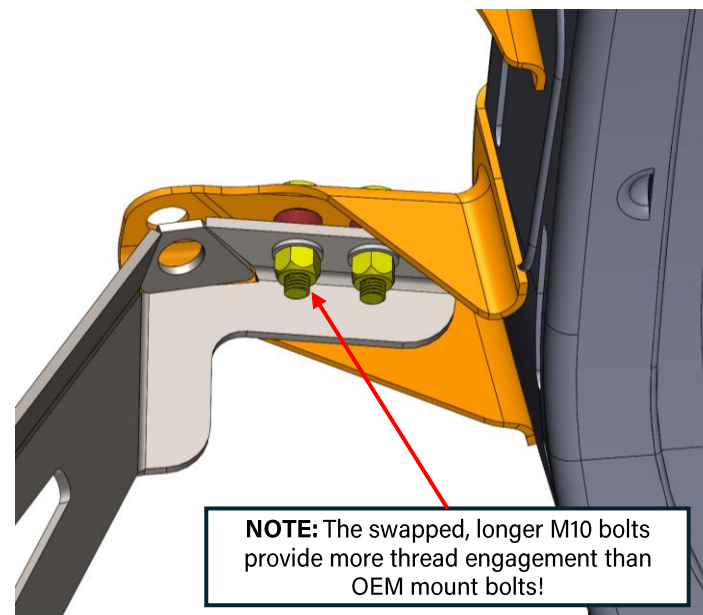

Figure 6: Motor mount bracket loosely installed
5. **Loosely** install the provided driver-side motor mount bracket. This bracket has a clearance bend for the driveshaft. See Figure 6 below for clarification. **Install below the motor mount using the x2 provided M10 locknuts and x2 washers. Do not install the skid plate yet!**